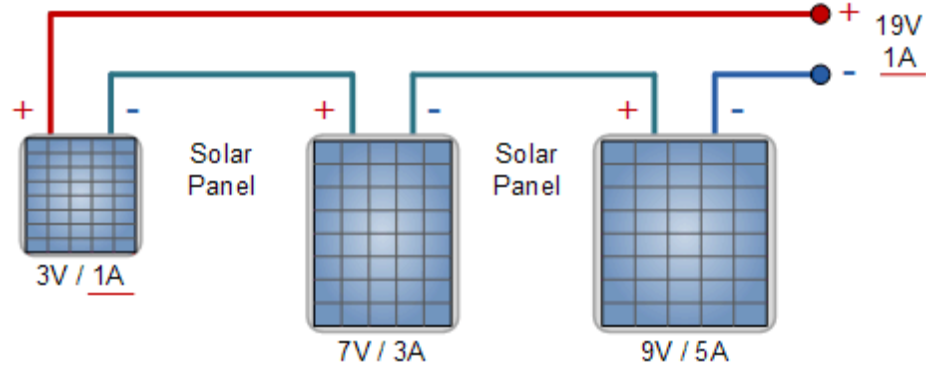

Figure 2: Solar panels connected in series with various ratings [1]
In Figure 2, we have the same panels except they are connected in parallel. When in parallel, the panel voltages are constant and the amperage is summed up. The output is now 6 volts and 9 amps, which gives the same power output when plugged into Equation (1) of $6 \times 9 = 54$ watts.
As we see below in Figure 2, when non-identical panels are connected in series they are restricted. This is because for a circuit in series containing elements of different ratings, the lowest current of the elements is the output current. The voltage is summed, but due the first element being only 1 amp the total output power is 19 Watts. Therefore, the largest element on the left with rating 9V / 5A is only operating at 20 percent of it's potential (contributing 9 Watts instead of it's potential 45 watts), resulting a large loss of efficiency and money.
However, as in Figure 2, we can even optimise our power output further by adjusting our solar panel angle in the summer and winter. Since the sun is higher in the sky in summer, we might change our angle of incidence from 39 to something in the region of 62.4 degrees. In the winter, we could move our panel to an angle closer to 25.4 degrees.